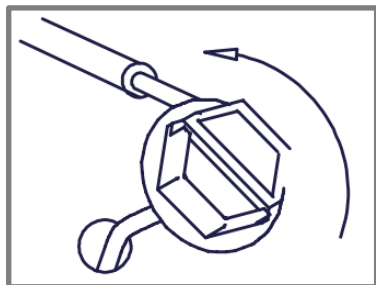

Figure 8.5.
- Loose the ground screw, then grounding conductor (if insulated) to be stripped min. 1", insert end of wire into small hole next to the ground screw hole in access plate and wrap counterclockwise as shown in Figure 8.5.